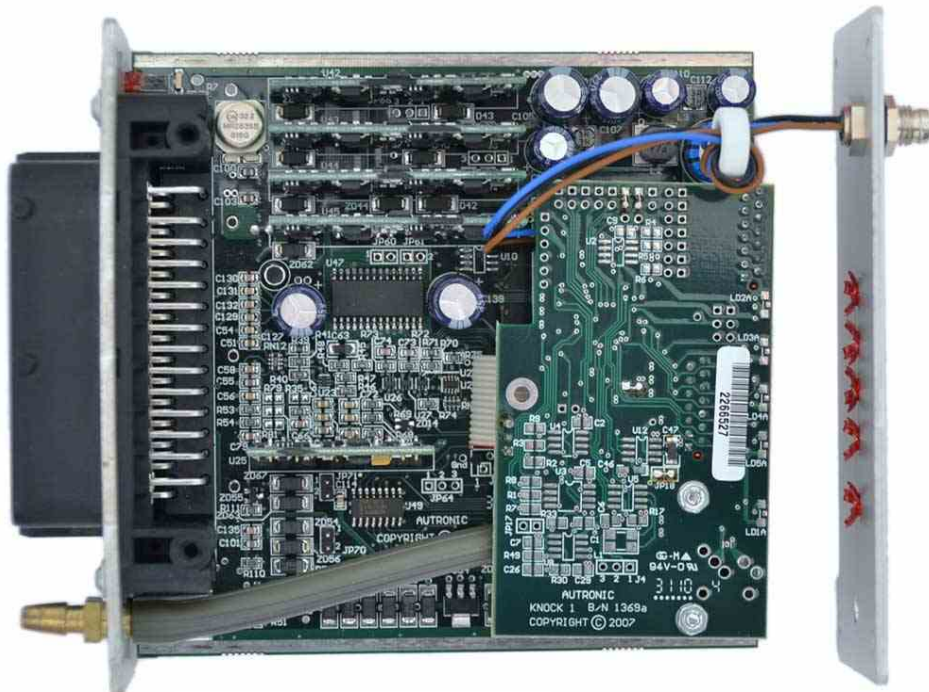

Figure 7 Knock Processor Board installed on SM4 ECU (same for SM3)
- 2.3.1 The Knock Processor mounting method for SM4 and SM3 ECUs is the same as that used for the Plug-in ECUs. Take note of the sensor wiring and toroid filter core positioning during installation (see Fig 7).